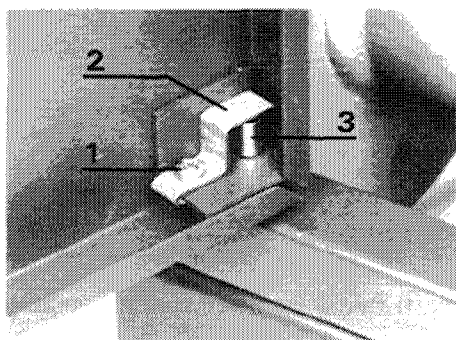

Fig. 17
- c) Remove Phillips screw (1, fig 17) at bottom of door and remove bracket (2, fig. 17).
- d) Lift out pin (3, fig. 17) and slide door from frame – bottom edge first.